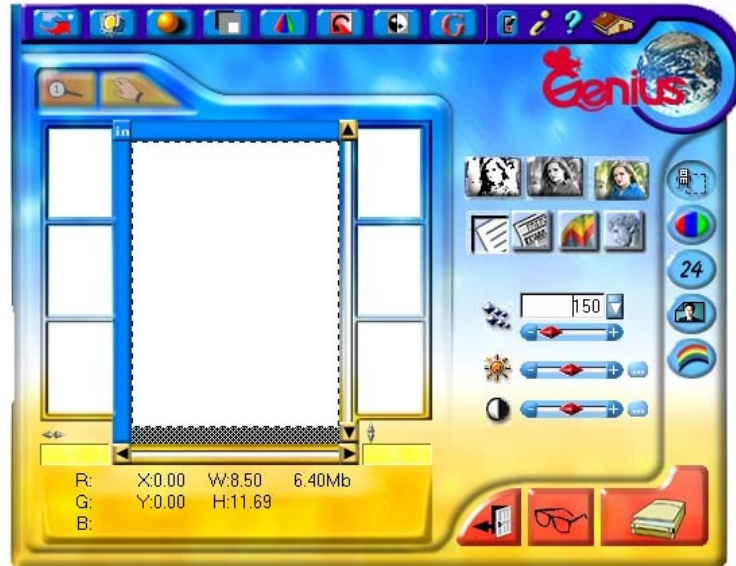

Figure 9. Genius TWAIN Interface
3. The **Presto! PageManager** software will be launched, then **Genius TWAIN** window will appear and starts to automatically scan. (refer to Figure 9. Genius TWAIN)